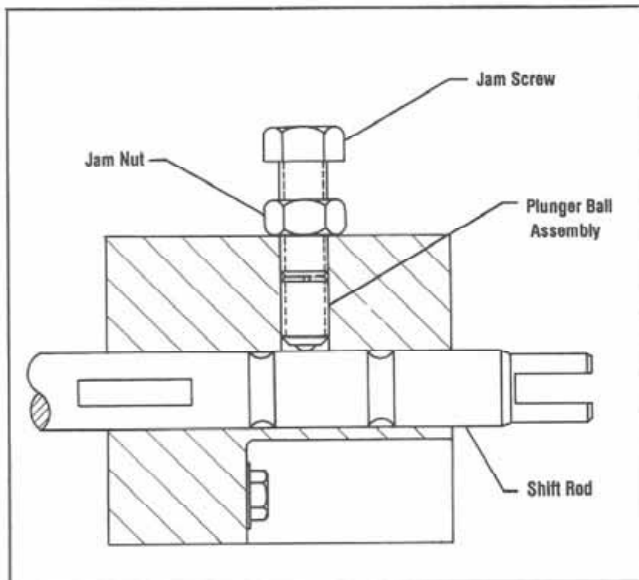

Figure 1:
1. With the shift rod in the neutral position (Fig. 1), screw the plunger/ball assembly in until it bottoms.
3. Tighten the jam screw (Fig. 1) finger tight against the plunger.